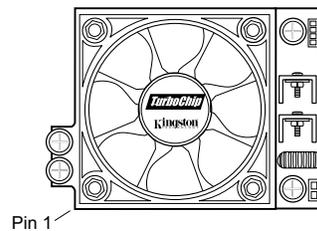
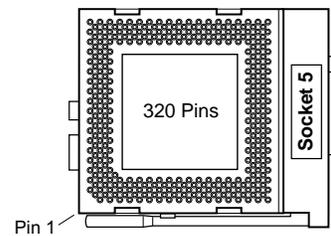

Figure 1: TurboChip Top View
Figure 2: Empty Socket 5
When installing the TurboChip, the orientation of Pin 1 (See Figure 1 on page 3) must match Pin 1 on the processor socket (See Figures 2 and 3 on page 3). The orientation of the processor socket will vary depending on the make and model of your particular computer. Follow the steps below to determine the correct orientation of TurboChip in your computer.
1. Look at the TurboChip carefully to verify which corner is Pin 1. Refer to Figure 1 on page 3 for help in locating Pin 1 on the TurboChip.